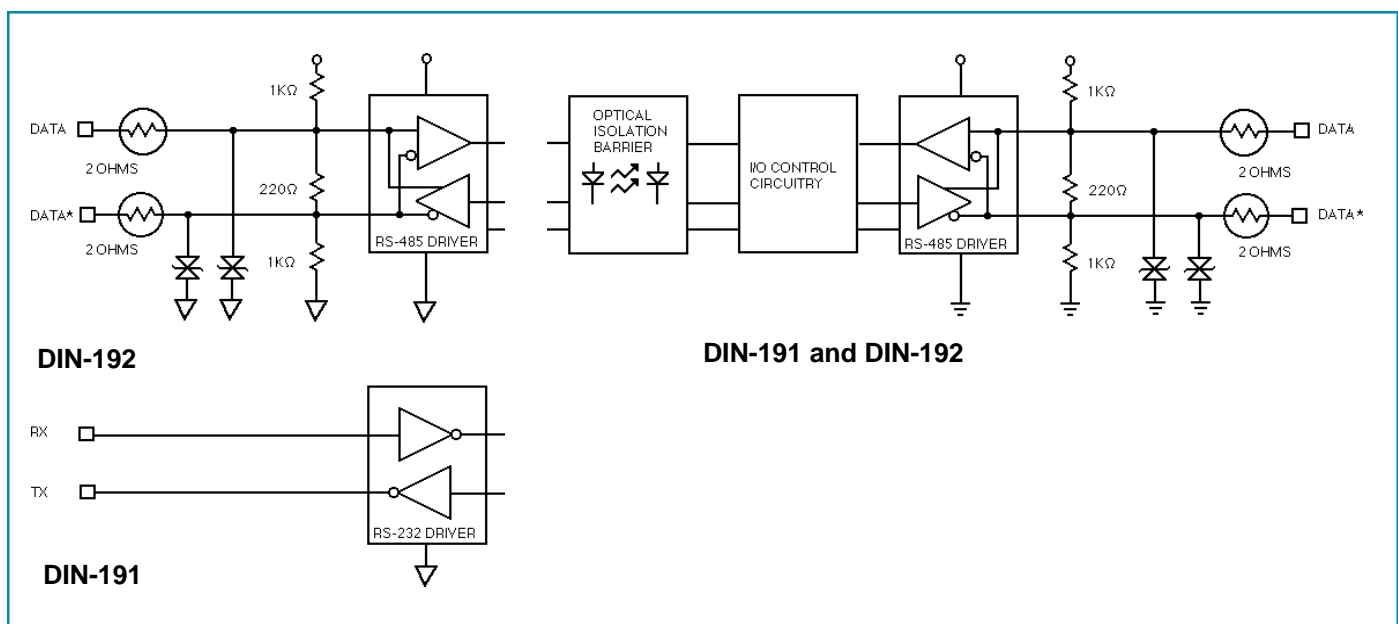

Figure 1 DIN-191 and DIN-192 Block Diagram.
The DIN-191 and DIN-192 automatically control bus direction in hardware without the need of handshaking signals from the host computer. As shown in figure 1, the I/O control circuitry monitors the RS-232 receive (RX) input and both RS-485 drivers. The RS-485 drivers in the converters are always in the receive mode until either RS-485 driver, or RS-232 input, receives the start of a character to be retransmitted. When the start of a character is detected, the I/O circuitry enables the proper RS-